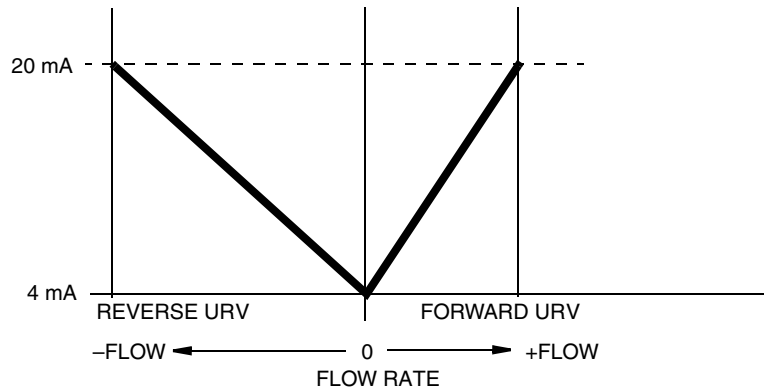

Figure 9. *BiDirectional Dual Range Milliampere Output*
- ◆ **BiDir Dual Rng** (bidirectional dual range), which specifies two-way flow with 4 to 20 mA indicating the rate and an optional Relay Output indicating flow direction. The upper range value for forward flow is parameter Forward URV. The upper range value for reverse flow is parameter Reverse URV. The relationship between the milliamper output and the flow rate in BiDirectional Dual Range mode is illustrated in Figure 9.